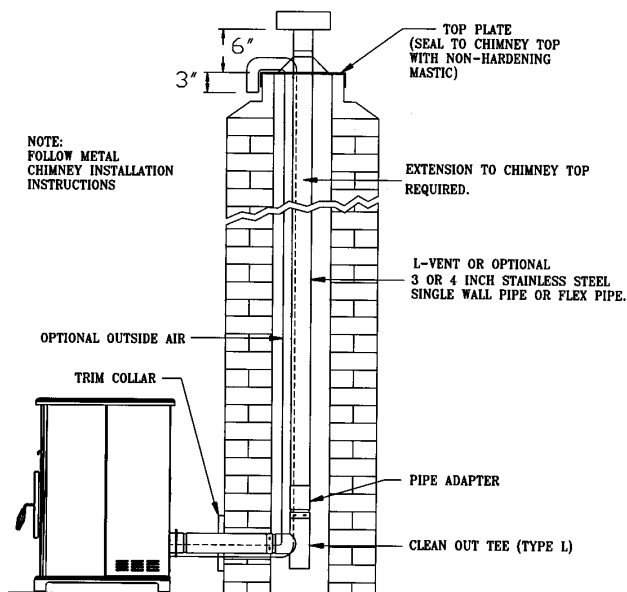

FIGURE 10
4. Install the tee on the bottom of the vertical pipe system and lower it down the chimney until the center branch of the tee is level with the center of the hole in the masonry, as shown in Figure 10.